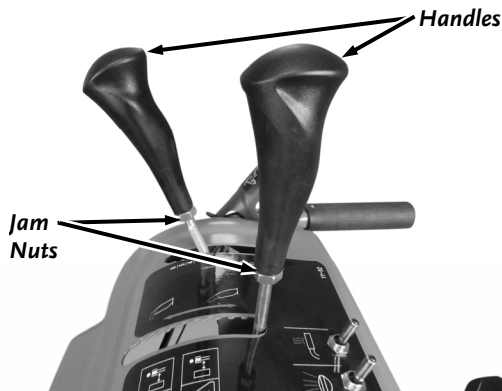

Figure 18
18. Screw the Handles onto the Shift and Deflector Levers and tighten the Jam Nuts using a 17mm Wrench (**Figure 18**).